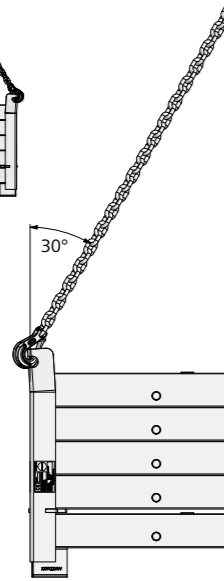

Fig. 4: maximum of five wall formwork panels per transport unit
- The total load capacity must not be exceeded (see section 5). The opening angle of the crane sling must not exceed 60° (Fig. 4).
- The adjustable bracket ② must always be set to suit the wall formwork panel in question.
- All bolts ③ must be installed in the plate with adjustable bracket.
Attach the crane sling's load hook to the attachment eyelet ① on the stacking angle 60/40/23 so that it cannot slide out of the eyelet when a rope or chain is slack (Fig. 4).